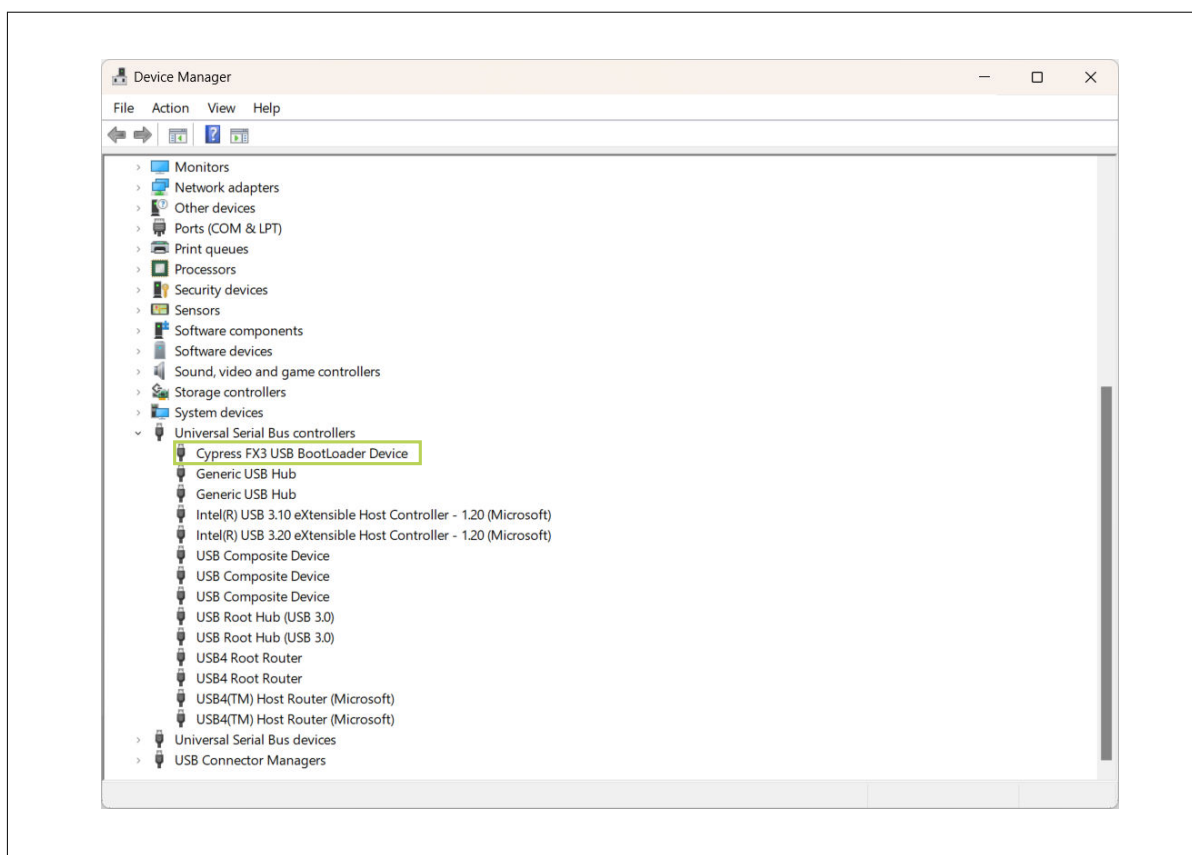

Figure 47 EZ-USB™ FX3 coming under Universal Serial Bus Controllers
7. If you have connected the X502 jumper on your board, the device **Cypress FX3 USB Boot Programmer Device** will appear under the **Universal Serial Bus controllers** tab in the Device Manager, as shown in Figure 47